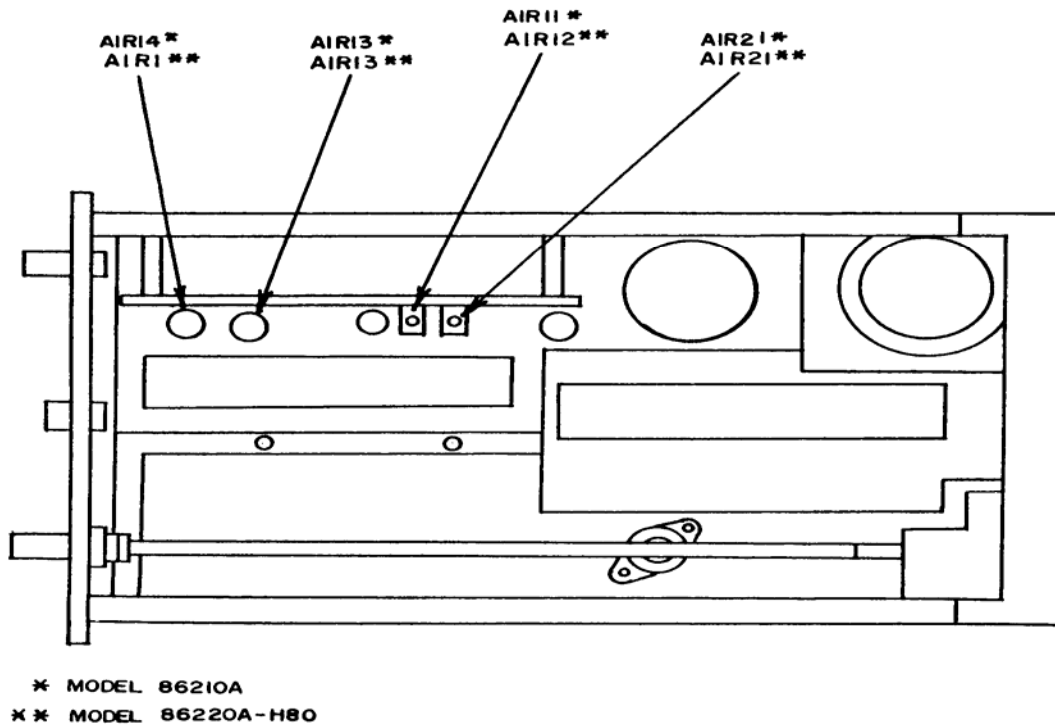

Figure 7. Models 86210A and 86220A-H80 - bottom view.
(1) Model 86210A
(a) Set **POWER LEVEL** control to +13 dBm and adjust A1R14 (fig. 7) for +13 dBm  $\pm 0.2$  dB power output indication (R).
(b) Set **POWER LEVEL** control to 0 dBm and adjust A1R13 (fig. 7) for 0 dBm  $\pm 0.1$  dB power output indication (R).
(2) Model 86220A-H80
(a) Set **POWER LEVEL** control to +10 dBm and adjust A1R1 (fig. 7) for +10 dBm  $\pm 0.1$  dB power output indication (R).
(3) No adjustments can be made for models 86230B-H80, 86241A-H80, 86242A-H80, 86250B-H80, and 86260A-H80.